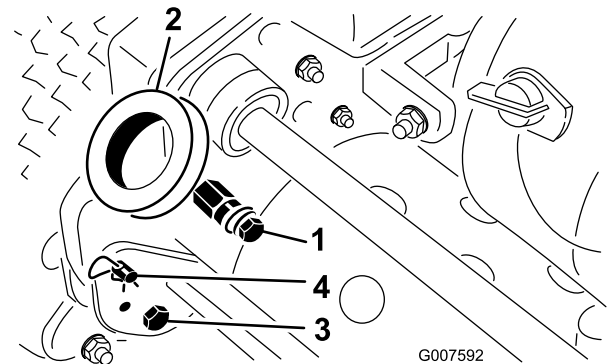

Figure 2
1. Remove the bolt, washer, and lockwasher from the mounting pin on each side of the mower (Figure 2).
2. Insert the handle ends thru the holes in the handle arms and align the holes with the mounting pins (Figure 2).
Note: Hair pin cotters and ring pins may have to be removed from handle arms to allow handle installation (Figure 2).
1. Remove the hairpin cotters from the ring pins on each side of the mower (Figure 2).
2. While supporting the handle, remove the ring pins from each side and raise or lower the handle to the desired operating position (Figure 2).